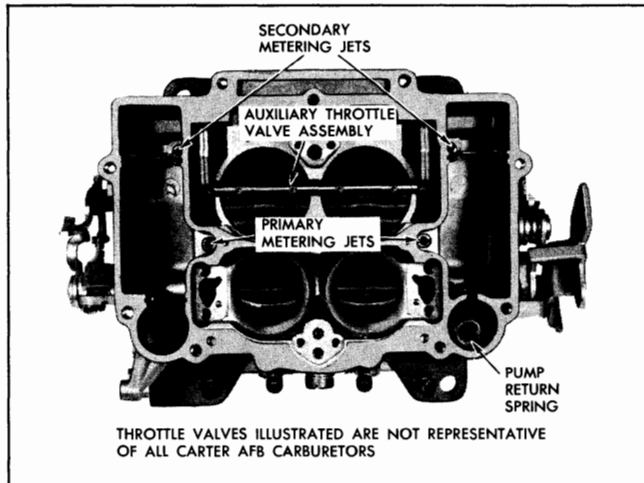

Fig. 6B-77 Body Assembly with Cluster Removed
11. Lift out auxiliary throttle valve, shaft and weight assembly (Fig. 6B-77).